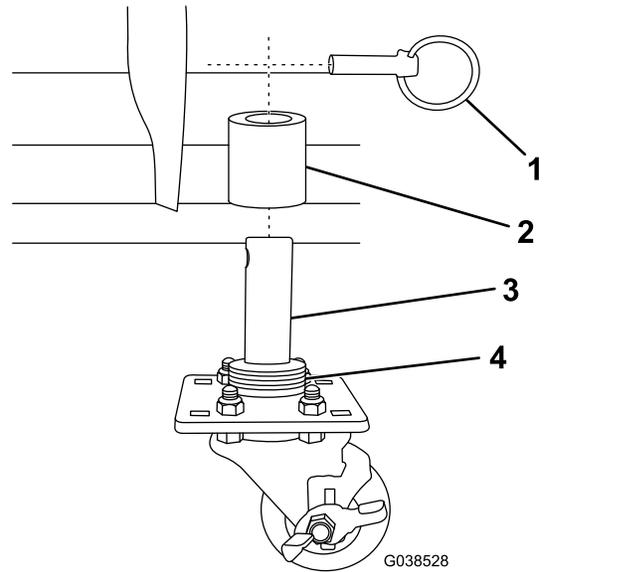

Figure 2
- Slide the small caster shoes into the shoe holders on the plow and secure them with a quick pin (Figure 2).